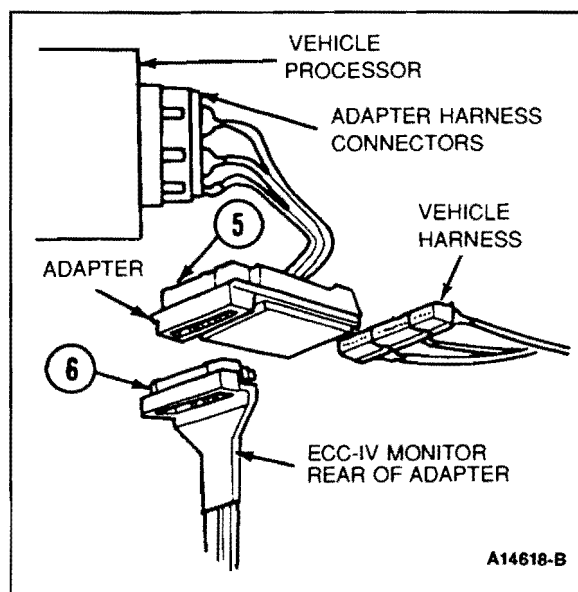

Figure 1
5. Attach the appropriate EEC adapter cable to the EEC processor. Refer to Figure 1.
6. Attach Monitor connector to the EEC adapter cable and tighten the bolt on the connector with the 10mm socket until snug. Do not overtighten. Refer to **Figure 1**. Attach the vehicle harness to the adapter cable.